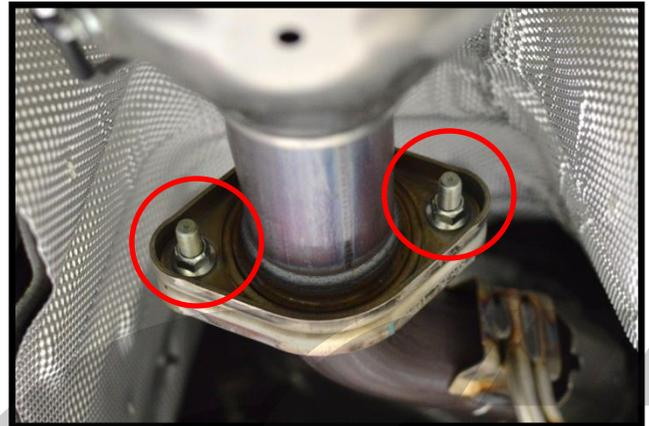

Figure 3c
- f) Un-fasten the cat from the downpipe by removing the two (2) 14mm nuts (red circles) with a 14mm deep socket wrench (Figure 3c).
- f) Remove the o2 sensor (red arrow) by turning it counter-clockwise with a 22mm o2 sensor wrench. Let the sensor hang down from the wiring (Figure 3c).